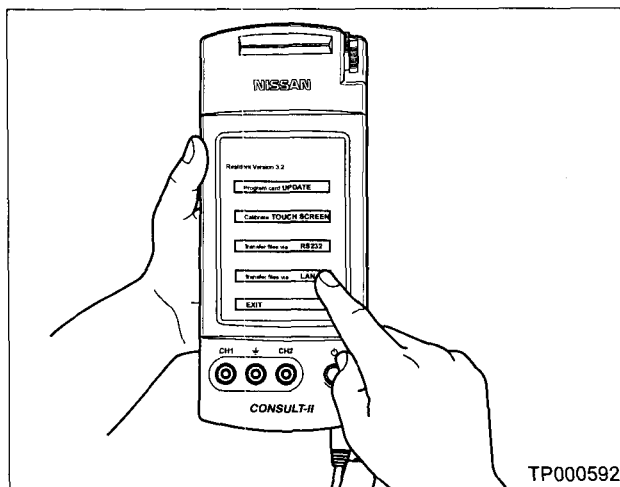

Figure 11
- B. Select "**Transfer files via Lan**" (see Figure 11). Set the CONSULT-II unit down for now.